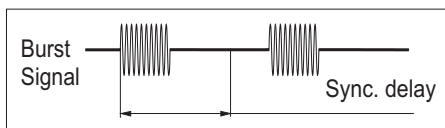

Figure 4-5 Set the sync delay so that it expires in the gap between the bursts.
- Press **HOLD OFF SET** and enter a sync delay longer than the burst duration and shorter than the burst repetition period. See Figure 4-5.
- Press **HOLD OFF SET** and enter a sync delay of approximately 75% of the modulating period. See Figure 4-5.